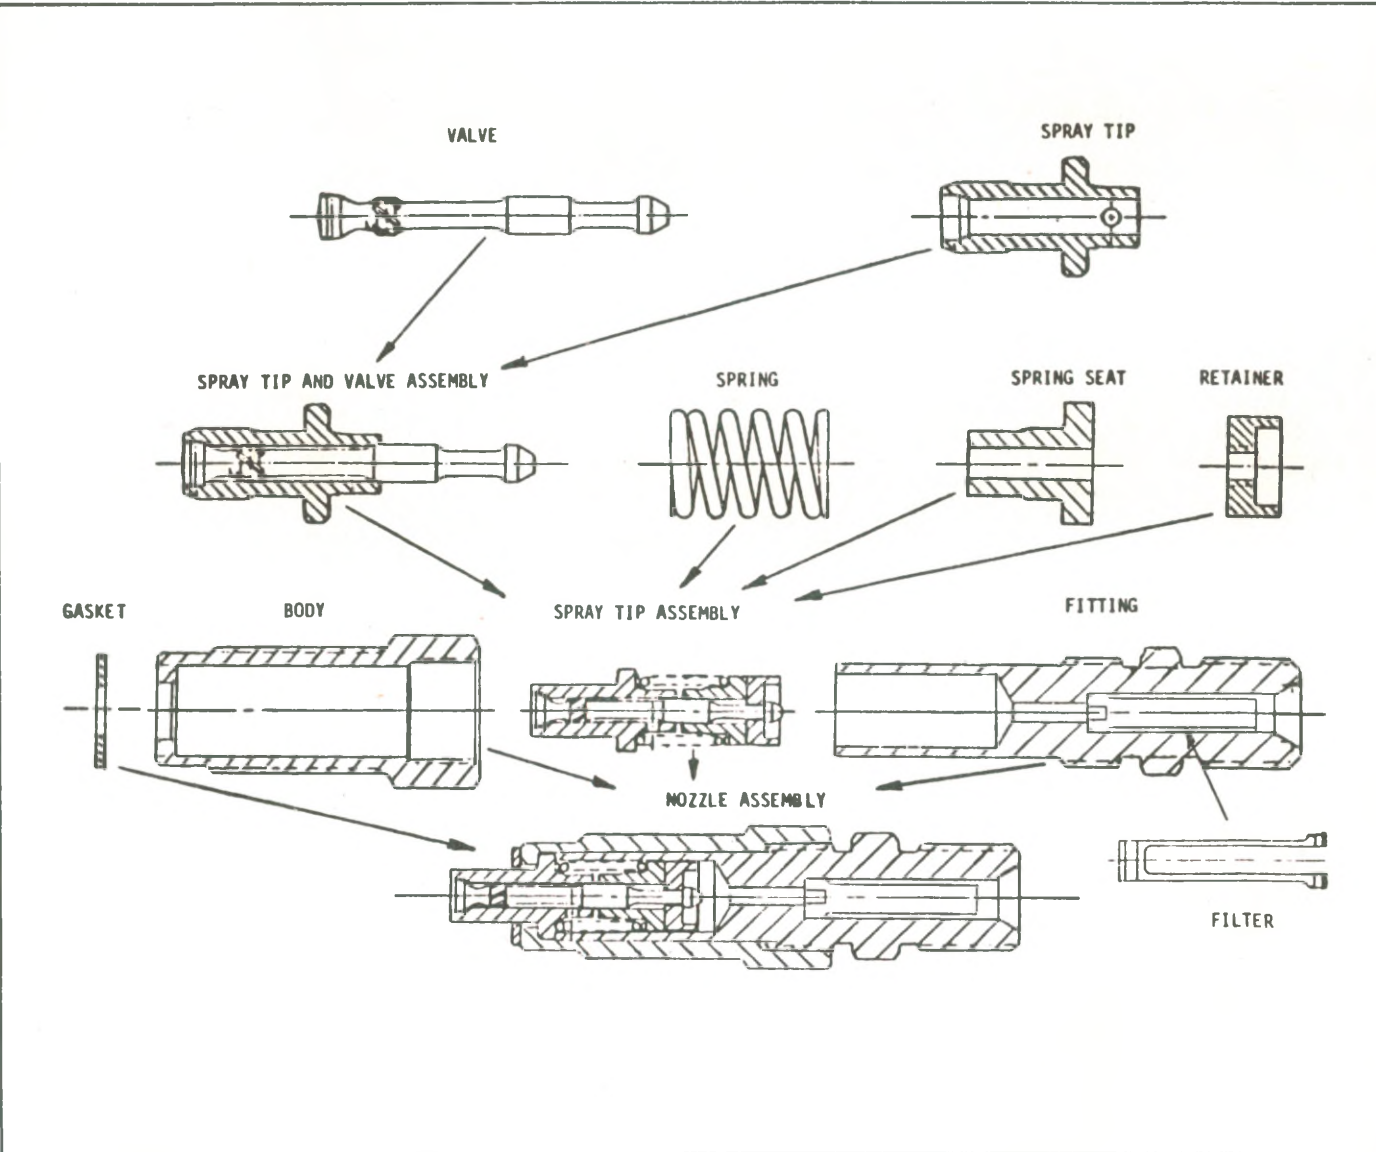

Fig. 5-5 Poppet Nozzle Assembly — Exploded View
- Disassemble the injection nozzle referring to Figure 5-5 as follows: